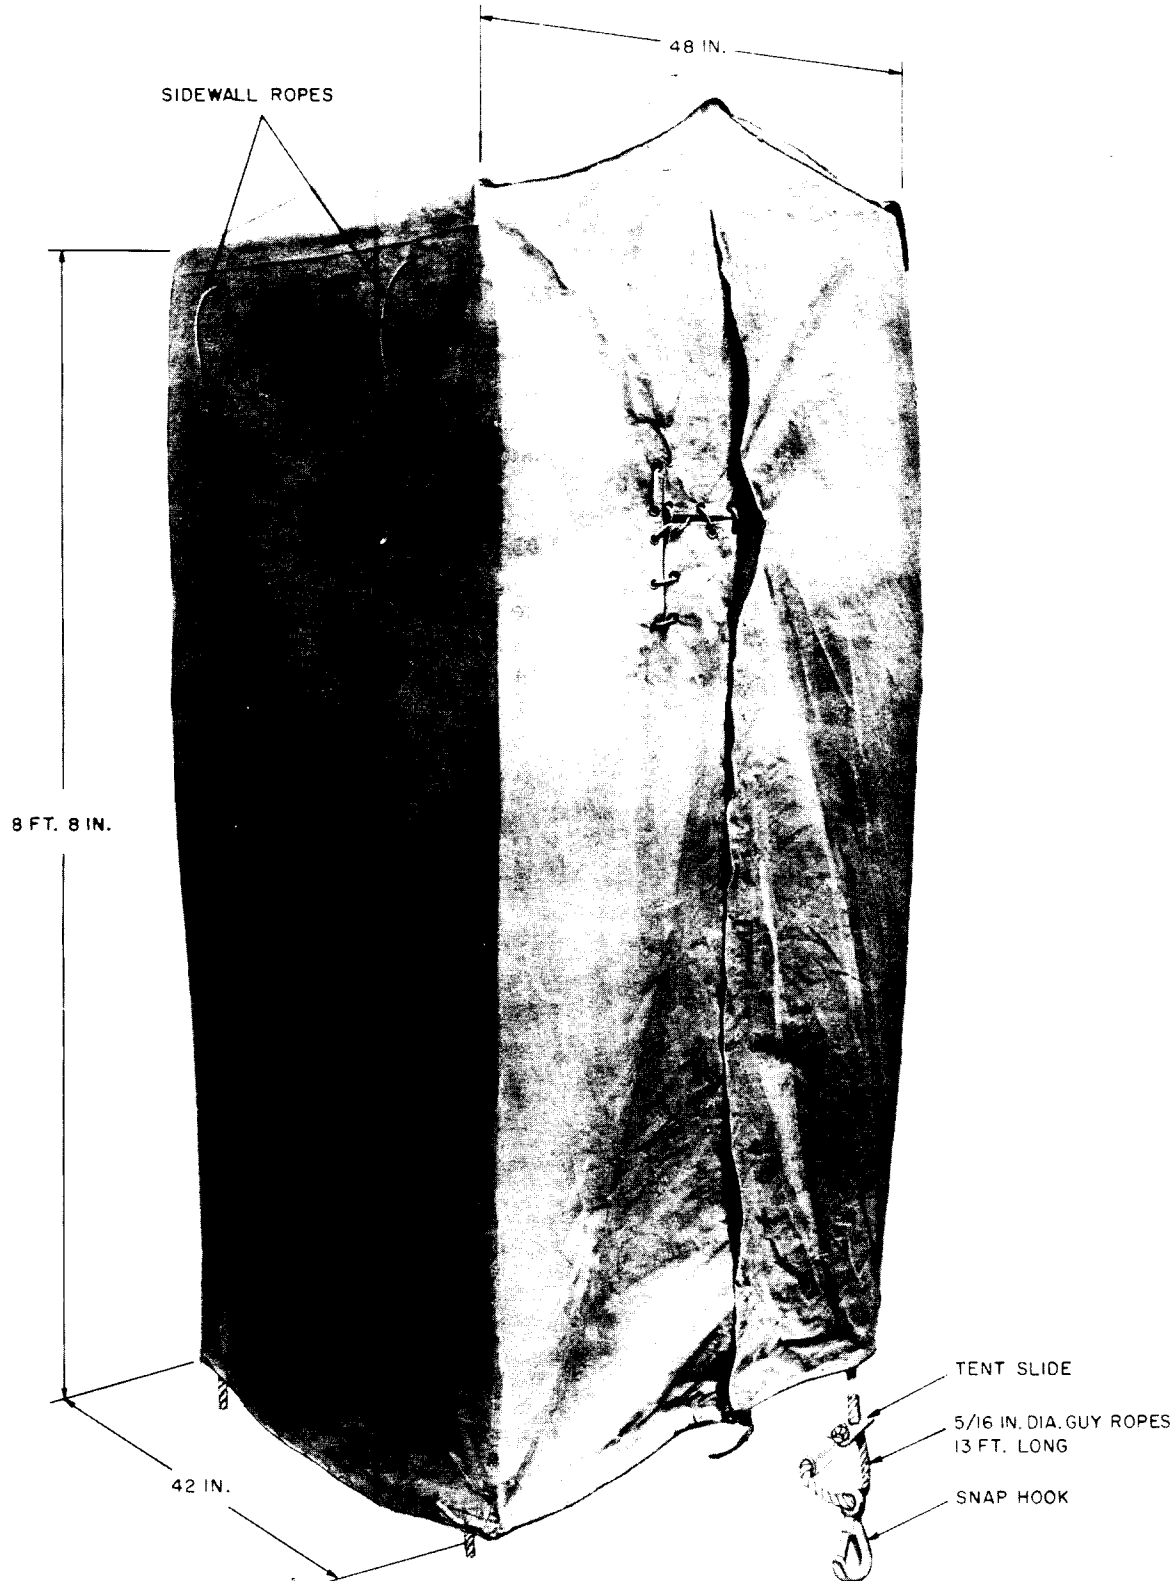

Fig. 1—D Workman's Tent
- 2.01** The D workman's tent (Fig. 1) is a compact, lightweight, folding tent designed for installation and removal by one man. The complete tent weighs about 30 pounds.